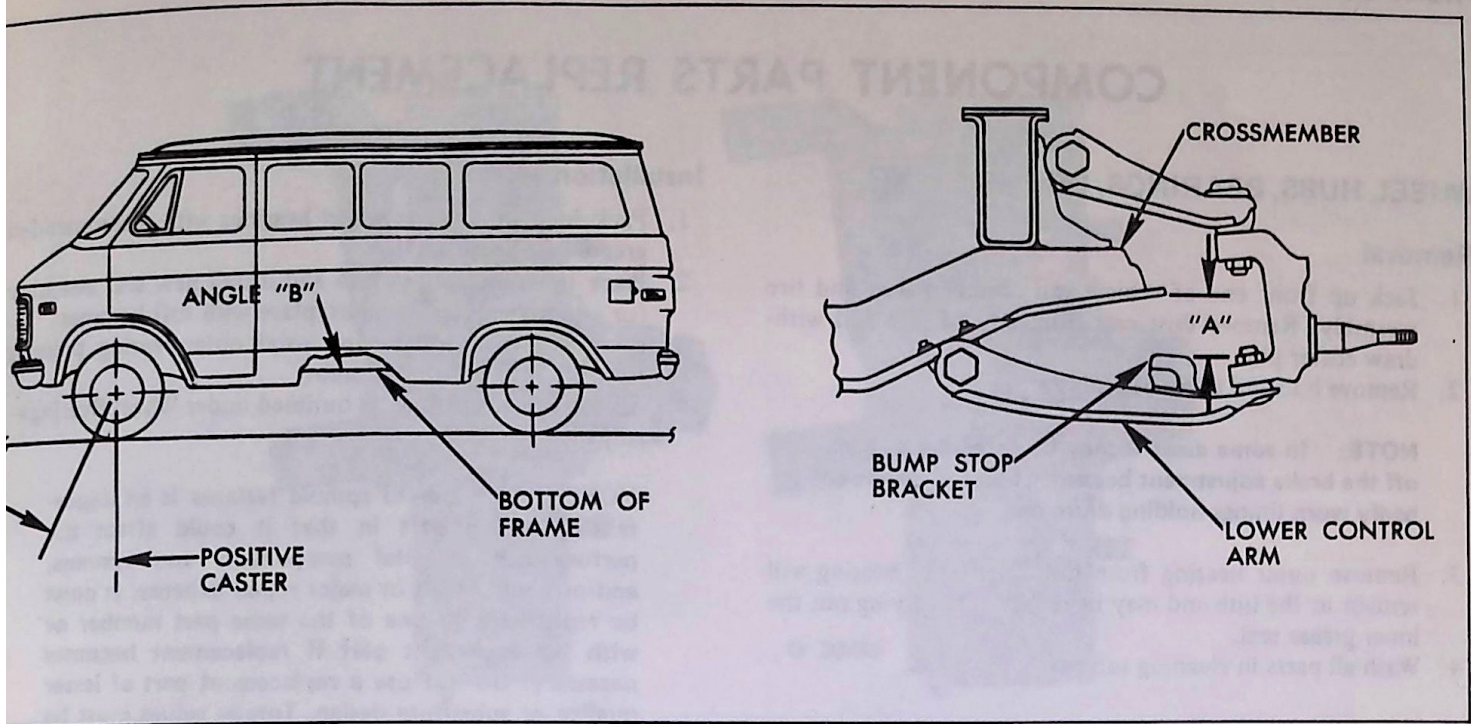

Fig. 3-Caster-Camber Adjustment
Measure caster and camber as follows (refer to Figure 3):
1. Using a bubble protractor measure frame angle "B" at location shown in Figure 3.